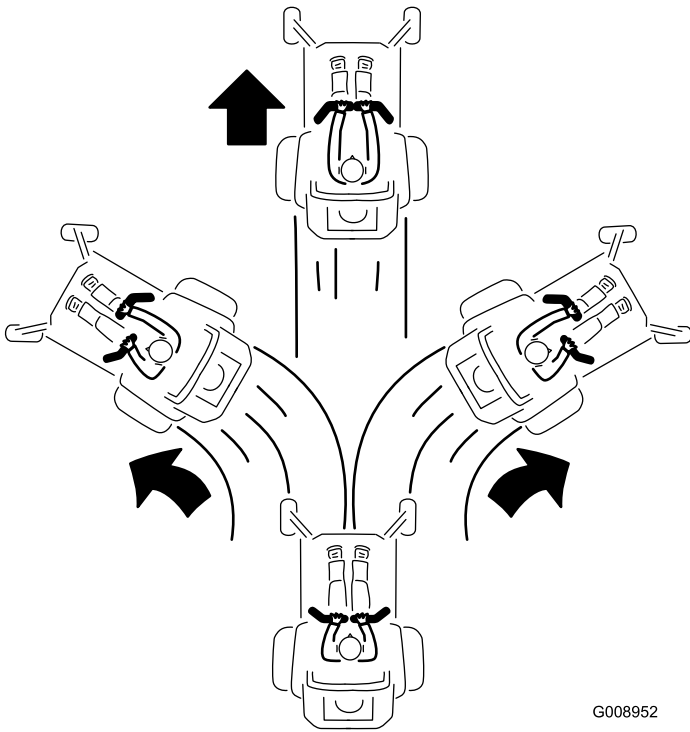

Figure 19
3. To go forward, slowly push the motion-control levers forward (Figure 19).